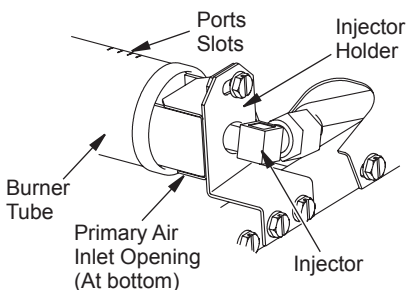

Figure 26 - Injector Holder On Outlet Burner Tube
2. Inspect burner, pilot and primary air inlet opening on injector holder for dust and dirt (see Figure 26).